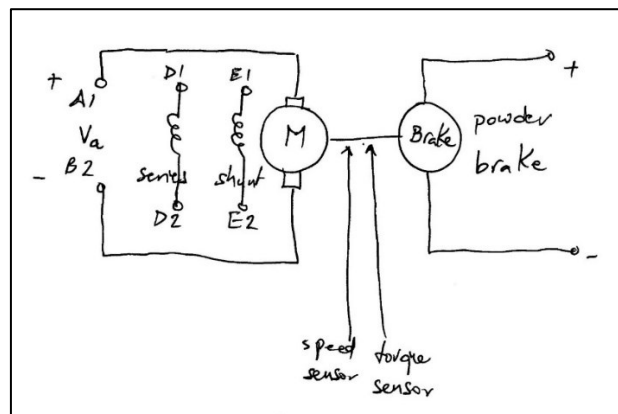

Figure 1: Wiring diagram of the dc motor.
1. Connect the dc motor as shown in Figure 1.